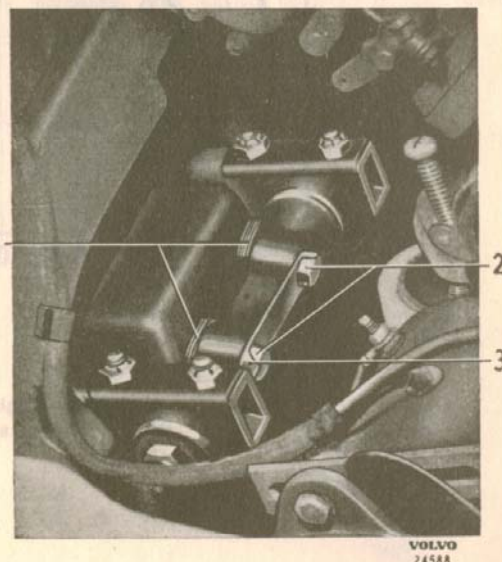
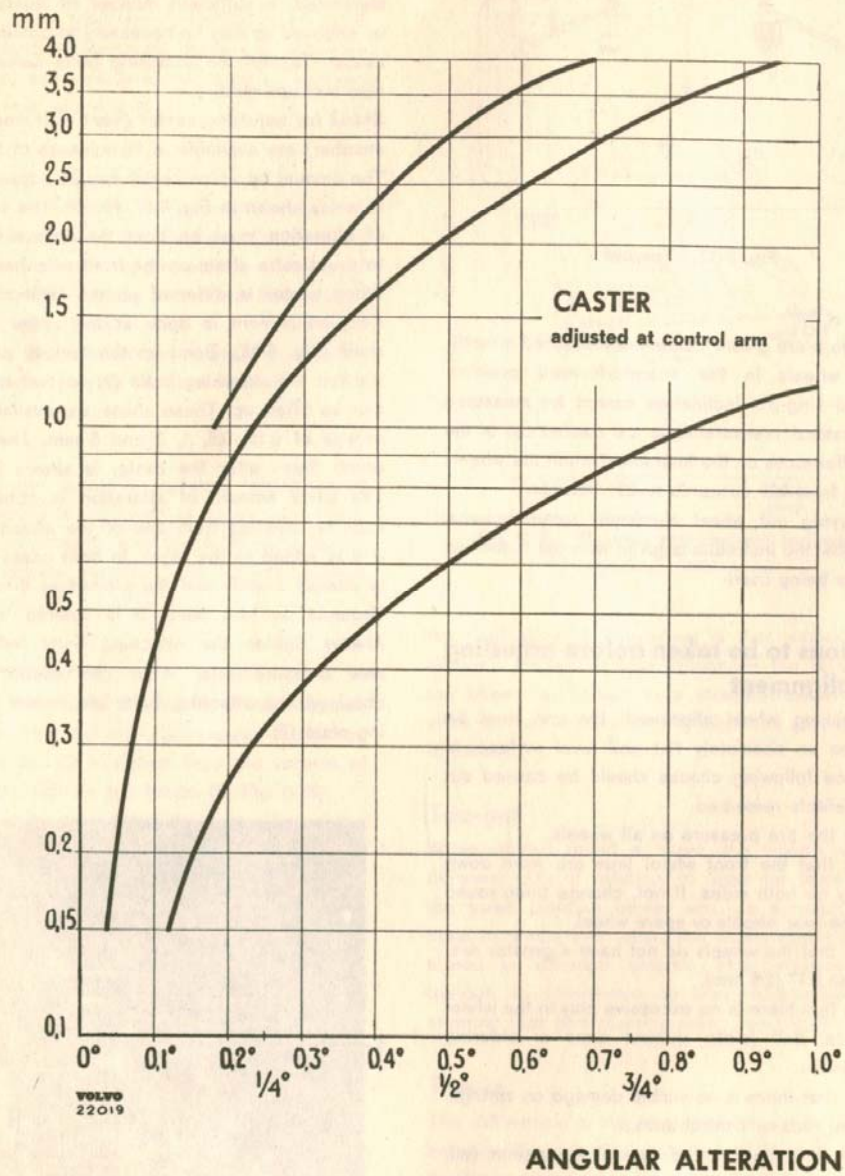

Fig. 6-38. Upper control arm attachment
Fig. 6-39. Diagram for camber and caster adjustments
When caster is different on the right and left-hand side, adjustment is done at the upper control arm shaft (Fig. 6-38). Bend up the locking plate (3) and slacken the attaching bolts (2) so that the shims (1) can be lifted up. These shims are available in thicknesses of 0.15, 0.5, 1, 3 and 6 mm. The amount by which these alter the caster is shown in Fig. 6-39. The same amount of alteration is obtained if one shim is removed from one of the attaching bolts or if it is added to the other. In both cases the camber is altered slightly and the procedure therefore partly depends on how much it is desired to alter this. Always tighten the attaching bolts before making new measurements. When the correct caster is obtained, the attaching bolts are locked with a locking plate (3).
The camber angle should be  $0^\circ$  to  $+1/2^\circ$ . The camber is adjusted by means of shims at the upper control arm shaft (Fig. 6-38). Bend up the locking plate (3) and slacken the attaching bolts (2) so that the shims (1) can be lifted up. By increasing the number of shims a more negative camber is obtained and by decreasing the shims a more positive camber is obtained. Shims are available in thicknesses of 0.15, 0.5, 1, 3 and 6 mm. The amount by which the shims alter the camber is shown in Fig. 6-39.